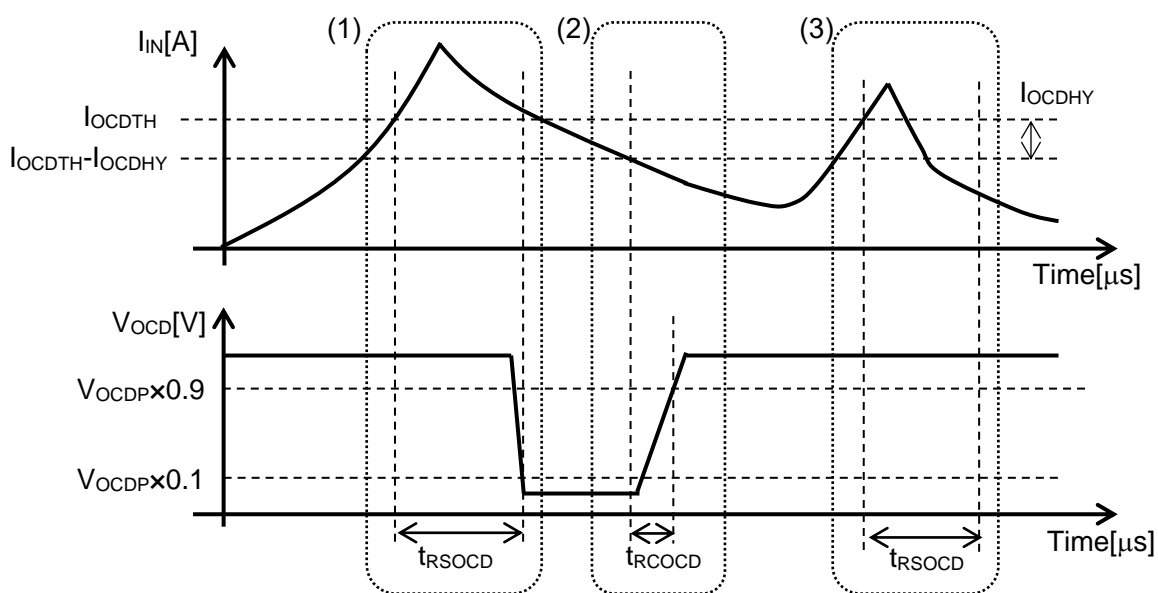

Figure 6. Overcurrent Detection Function of CZ-3A04
10.4. Overcurrent Detection Function is operated as below. (See figure 6.)